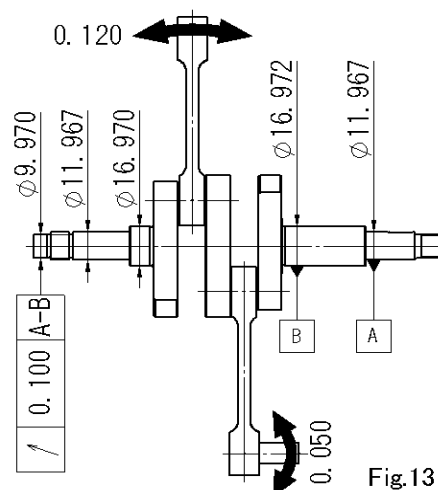

Fig.13
- ii) Measure each diameter of the crankshaft shown in Fig.13 with a micrometer. Replace the crankshaft assembly in case the measured diameter is less than the size shown in Fig.13.
iii) Check the balancing of the crankshaft using a dial indicator (see Fig.13). If the value is more than 0.100, replace the crankshaft assembly.